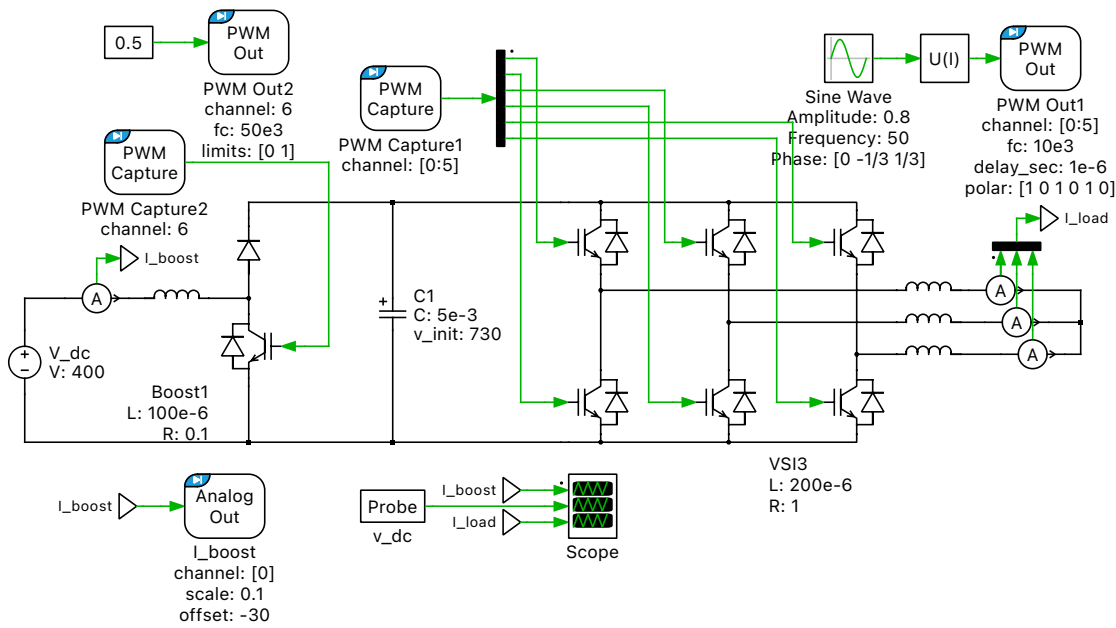
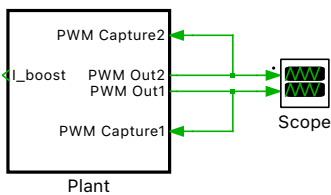
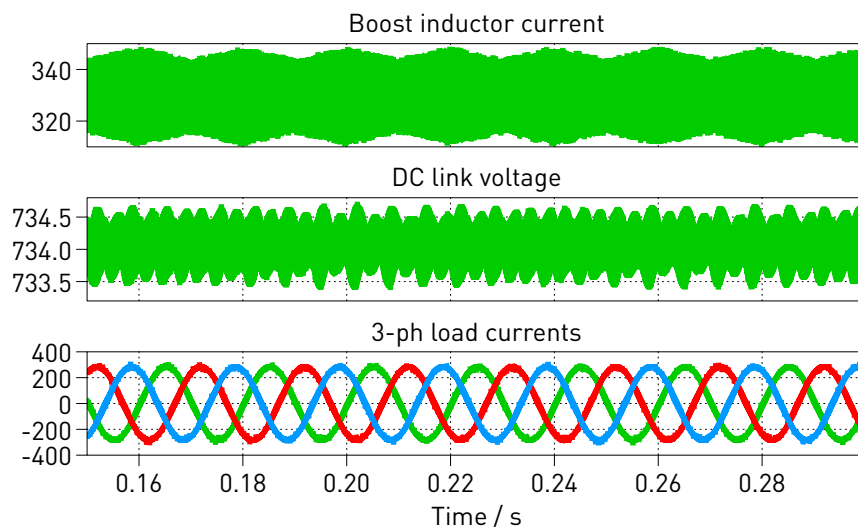

Figure 5: Schematic inside the “Plant” Subsystem for the cascaded Boost Converter and VSI, using the CPU solver
Figure 6: Top-level schematic of the cascaded Boost Converter and VSI, using the CPU solver
Figure 7: Offline simulation result of task 3.1
- 8 Refer to Fig. 5 and Fig. 6 for the schematic at the current step. Run the simulation once in offline simulation, the scope waveforms should look like in Fig. 7.